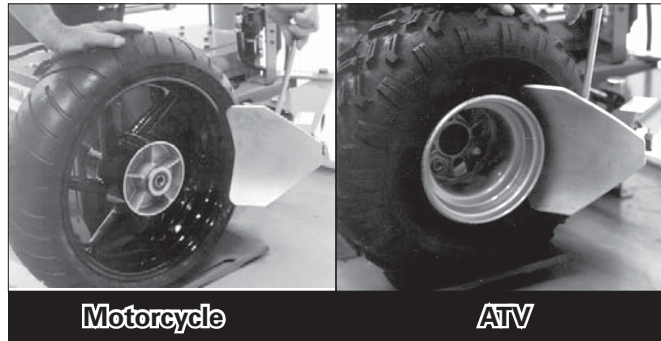

Figure 2 - Position Tire and Bead Loosener Shoe
2. Pull the bead loosener shoe away from the machine and roll wheel into position. The valve stem should be in the 3 o'clock position. Position the bead loosener shoe against the tire next to, but not on, the rim. Depress the bead loosener foot pedal to actuate the shoe and loosen the bead. It may be necessary to loosen the bead in multiple locations around the tire (Figure 2).